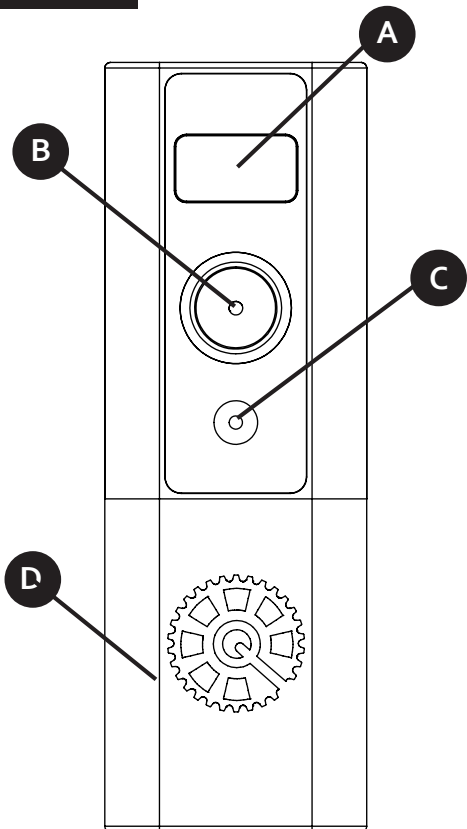

Fig.2
- (Abb.2 - Installationshandbuch)